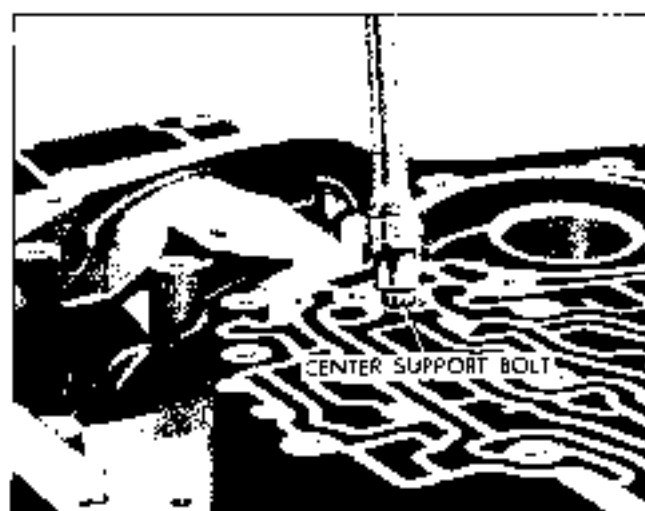

Fig. 7E-44 Removing Center Support Bolt
13. Remove center support to case retaining snap ring (Fig. 7E-46).